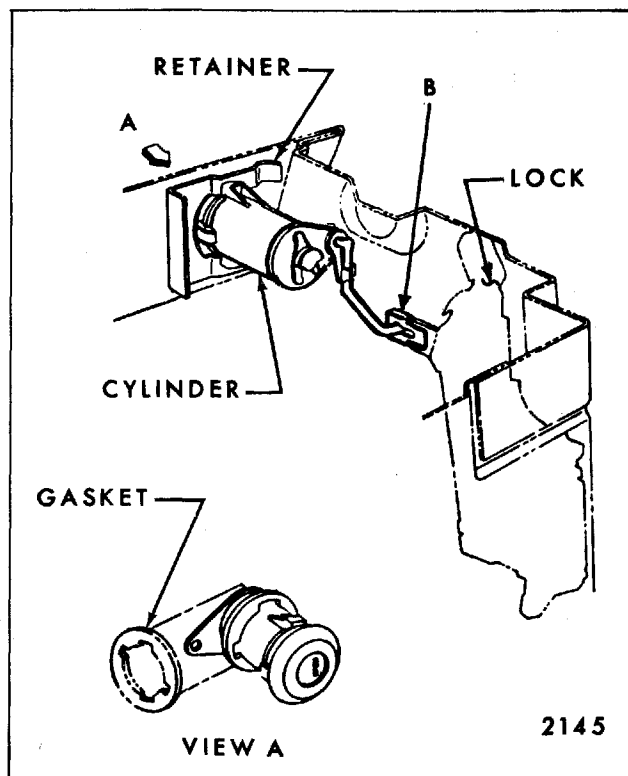

Fig. 7-62—Front Door Lock Cylinder Removal - Chevrolet "B" Four-Door Styles
2. Disengage spring clip securing lock cylinder to lock connecting rod at lock ("B", Fig. 7-62). Refer to "Front and Rear Door" section for spring clip disengagement.